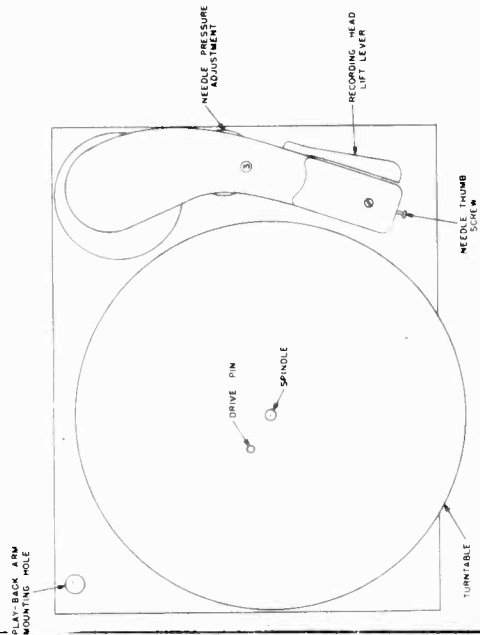

Fig. 3—RECORDER MECHANISM, TOP VIEW
- A. Groove depth. This adjustment is a knurled wheel located at the bottom of the recording arm. (See Figure 3.) Rotating the wheel in a clockwise direction increases the depth of cut, while counterclockwise rotation decreases it.